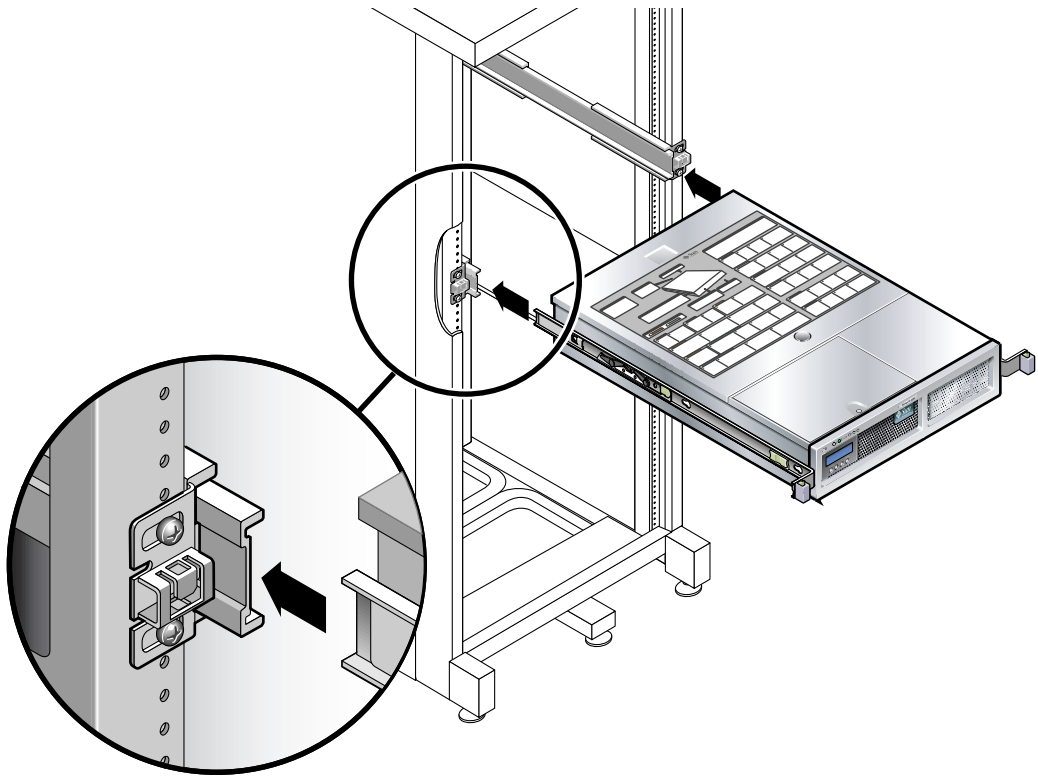

FIGURE 2-17 Mounting the Chassis on the Slide Rails
10. Insert the ends of the mounting brackets into the sliding rails (FIGURE 2-17).